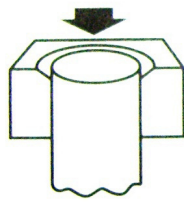

Figure2
6. Tool is self-gauging. The proper size flare is achieved when tubing is clamped flush with the top of the die block. See (Figure2). Insert tubing between the segments of the die block which correspond to the size of tubing being flared.